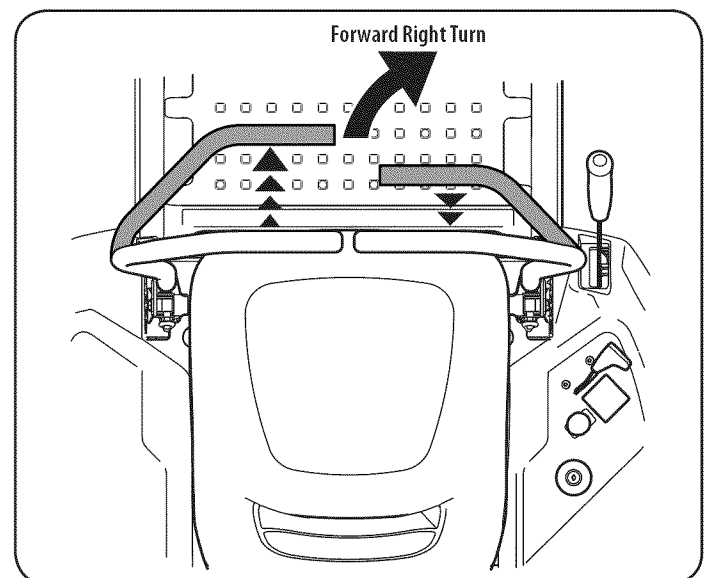

Figure 12
2. To turn to the right, move the right drive control lever rearward of the left lever. See Figure 12.